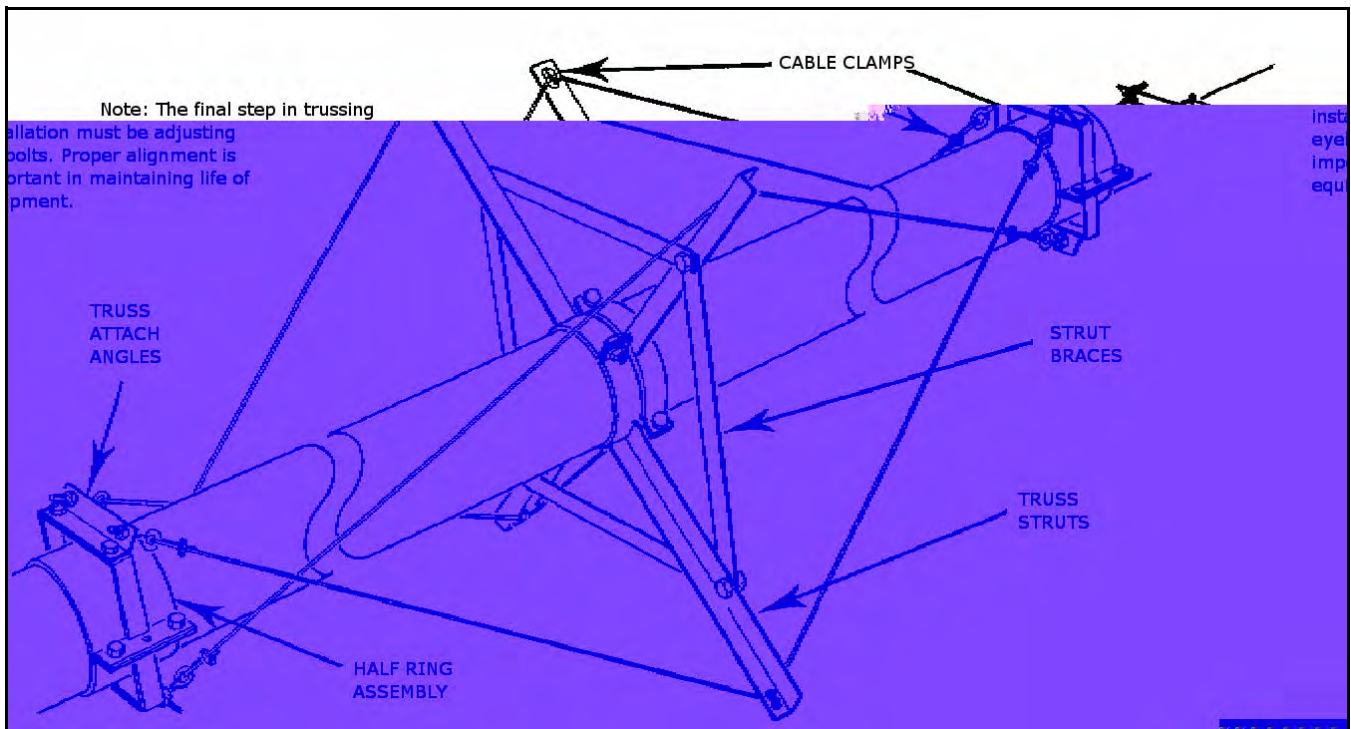

Figure 3.10
See Figure 3.10.
2. Attach strut braces (Figure 3.10) with 7/16" x 1" bolts and locknuts and secure.
Note: *The distance for mounting the half ring assemblies is limited by the length of cable in your kit. Maximum distance for the 30' kit is approximately 28'. Maximum for the 40' kit is 38' (Figure 3.10).*